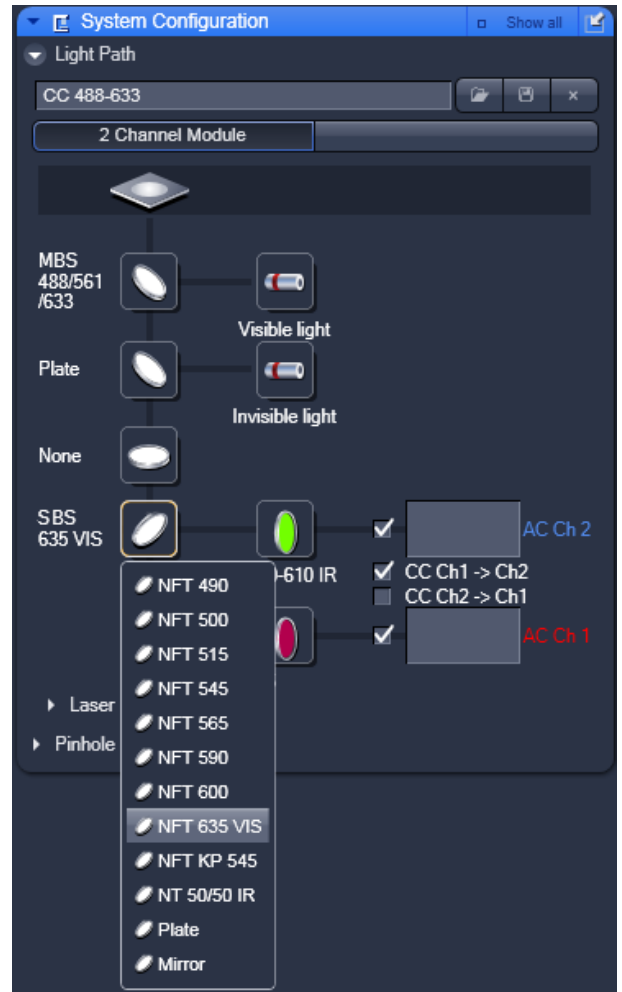

Fig. 26 System Configuration tab - Light Path panel with SBS filter list
- Click on the SBS icon to open a list of dichroics (Fig. 26).
- Click on the EF2 or EF1 (Fig. 26) icon to open a list of available emission filters.